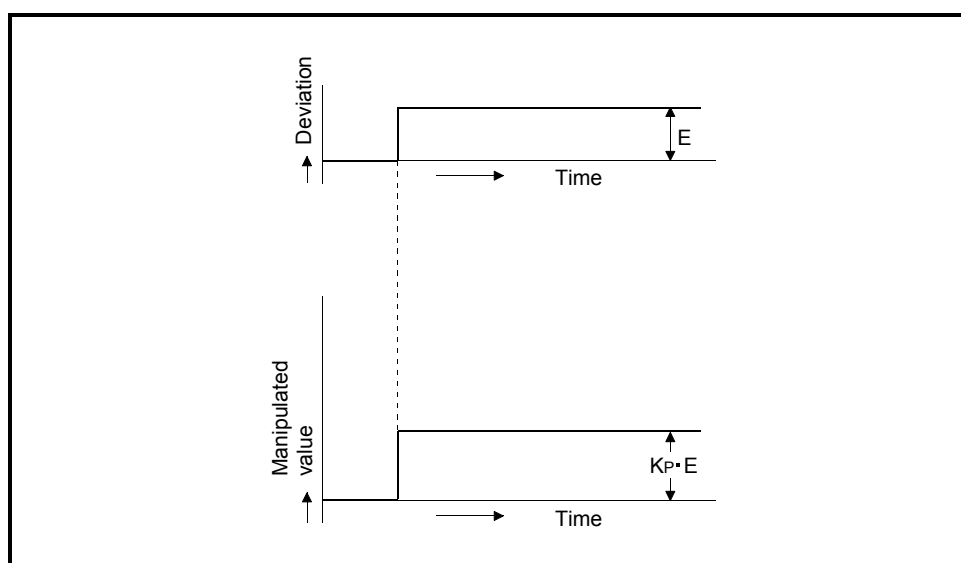

Fig. 1.7 Proportional action for step response
- (3) The proportional action for the step response when the error value is constant is shown in Figure 1.7.
- (4) The manipulation value changes between -5.0% and 105.0 %. As the K_P increases, the manipulation value for the same error value becomes larger, and the corrective action becomes stronger.
- (5) The proportional action will generate an offset (remaining deflection).